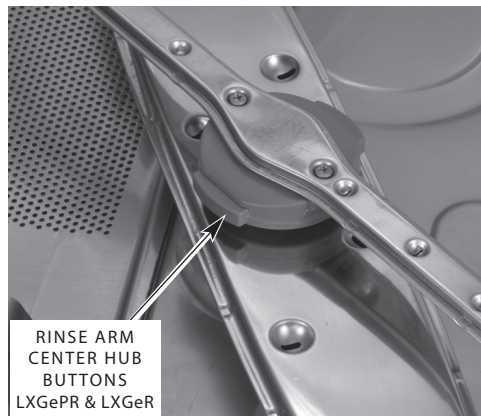

Fig. 8
2. Remove the lower rinse arm by pressing in on the buttons located on the sides of the center hub and pull off (Fig. 8). Remove the lower wash arm by pulling the arm off the shaft. Remove the upper rinse and wash arms in the same manner. Remove the coarse and fine strainers (see Figs. 6 and 7). Thoroughly clean these items in a sink. Remove debris from wash/rinse arm nozzles.